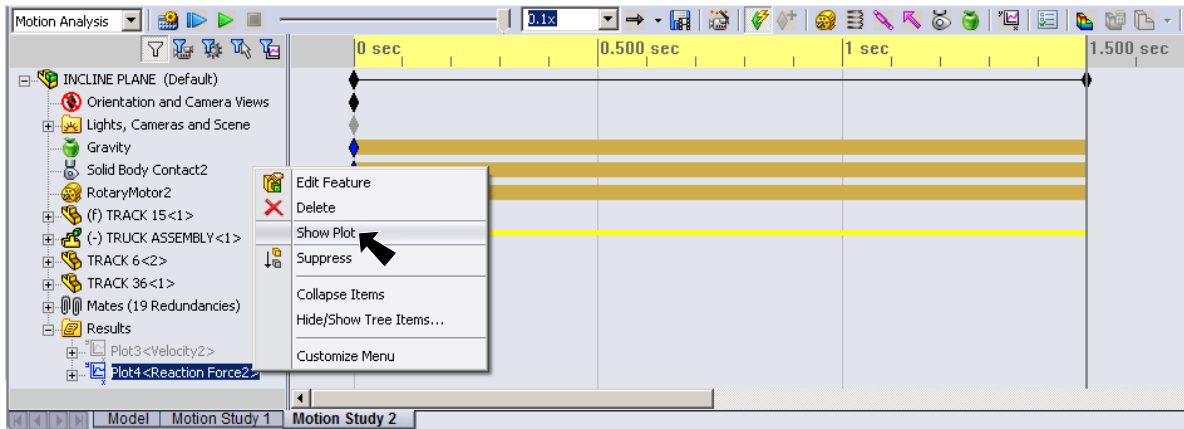

Fig. 11
Step 11. What's the Force? **Expand Results** at bottom Motion Manager design tree, **right click Plot4 Reaction Force2** and click **Show Plot** from menu, **Fig. 11**.